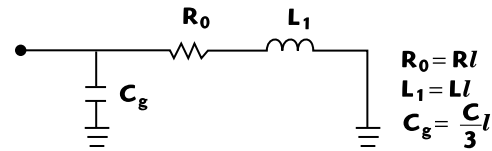

Figure 9: Low frequency lumped equivalent circuit for short-circuited lossy line
We recognize this as the admittance of the circuit shown in Figure 9. The inductance and capacitance both impose limits on how well matched we can make the termination over a given bandwidth.
In the late 1940s, H.W. Bode considered the problem of impedance matching two-element RC or RL loads.3 Bode's work was extended and generalized by Fano4 in 1950; Fano presented the limitations on impedance matching any load over an angular frequency range,  $\omega_a$  to  $\omega_b$ . However, for illustrative purposes, let us consider the case analyzed by Bode, i.e., where the inductive reactance is so much less than the value of the resistance at the highest frequency of interest that we can neglect the inductance altogether. For further simplicity, we take the lower frequency as zero (DC). Then, applying Bode's formula to the circuit of Fig. 9, the best possible results are limited as indicated by